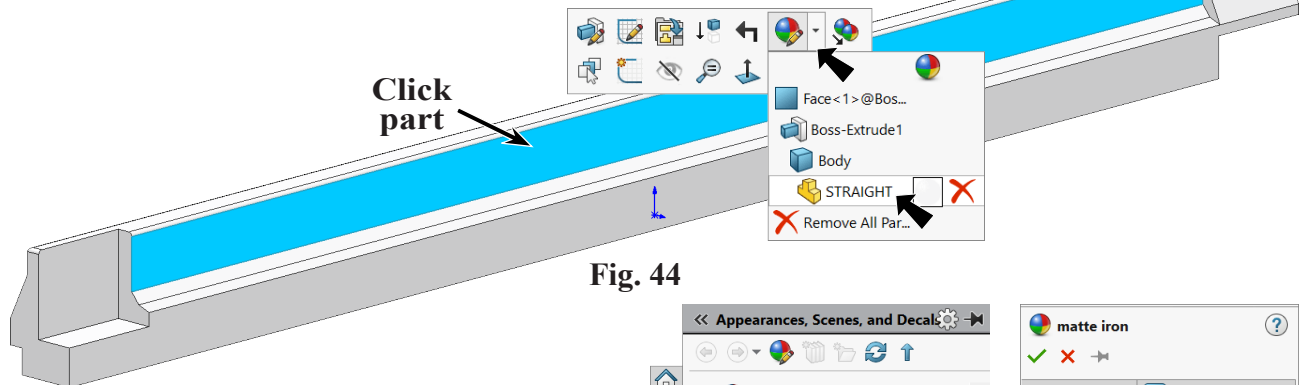

Fig. 44
Step 1. Click part, click **Appearance Callout**  on the context toolbar and click **STRAIGHT RAIL** , Fig. 44.